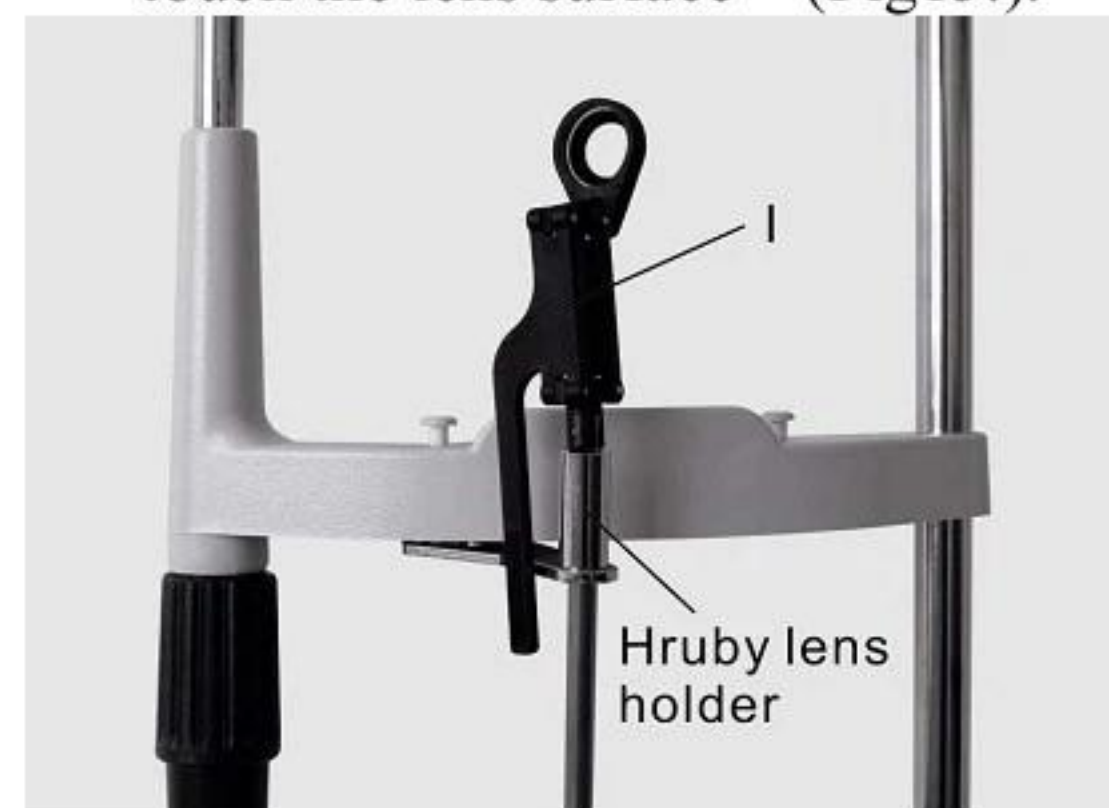

Fig.15
10) Assembling the Hrubby lens (I) and the Hrubby lens guide plate (J)
- ✧ Insert the Hrubby lens (I) into the Hrubby lens holder (35) on the headrest part. Be careful not to touch the lens surface (Fig15.).